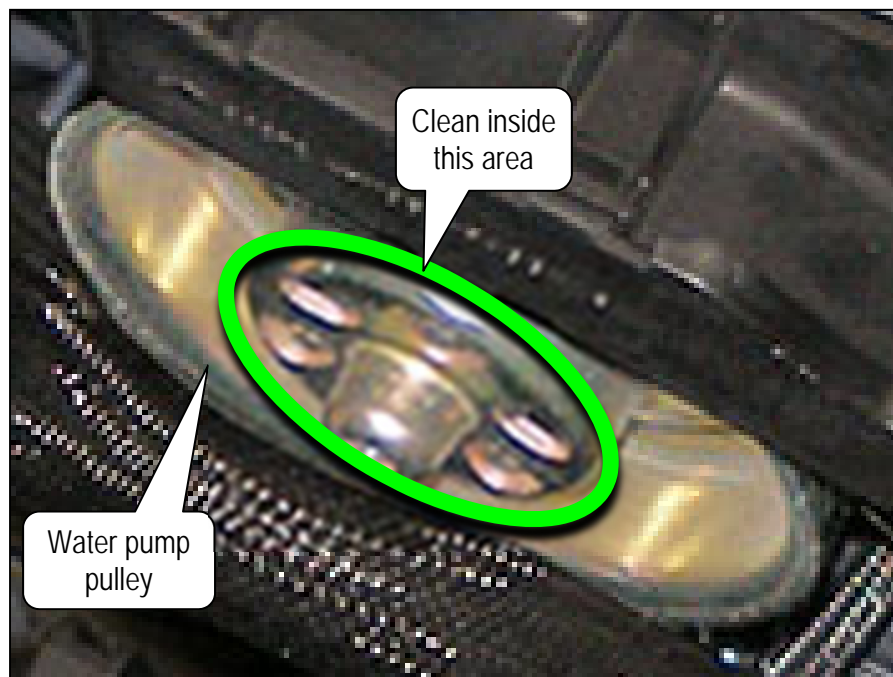
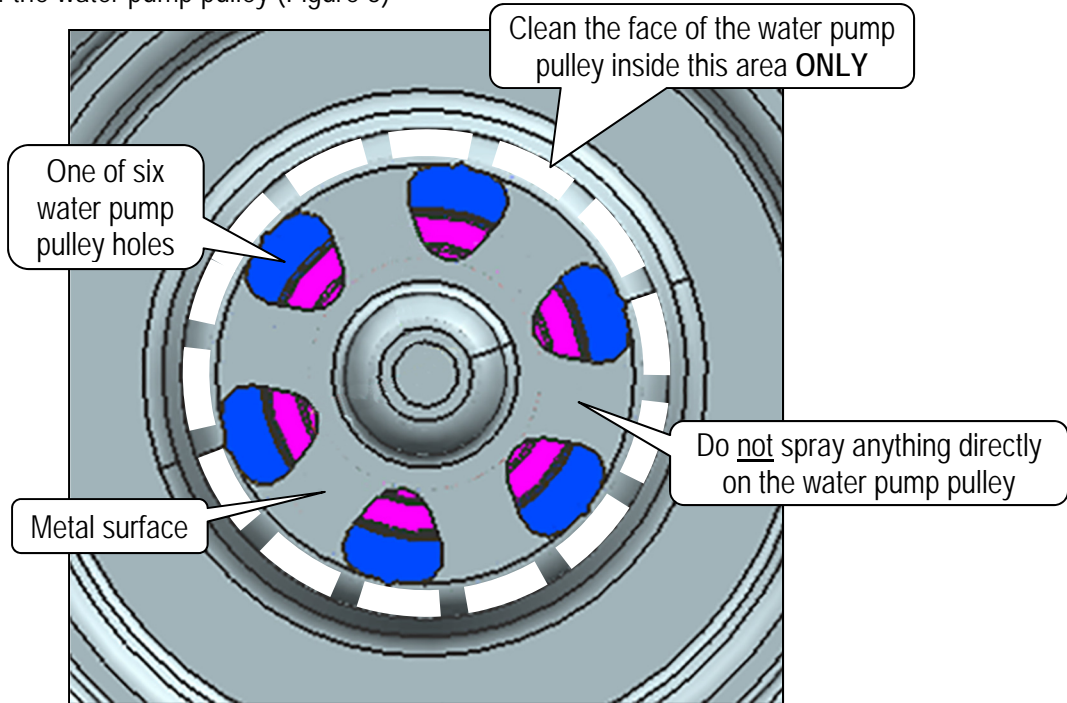

Figure 4
Figure 5
3. Clean the face of the water pump pulley ONLY (see Figure 4, below, and Figure 5 on page 4).
Apply the cleaner to the clean cloth, and then clean off the area where shown in Figure 4 and Figure 5. Do not spray anything directly on the water pump pulley, as damage may occur to the water pump seal.
- The face of the water pump pulley (Figure 5)